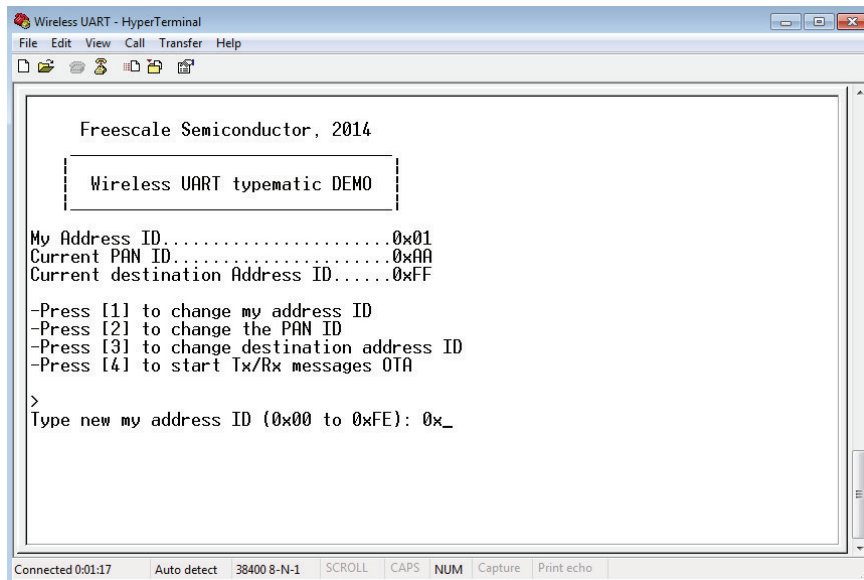

Figure 3-2. My Address ID String
1. To change the My Address ID value, press "1" from the main menu screen and the My Address ID string appears as shown in Figure 3-2.